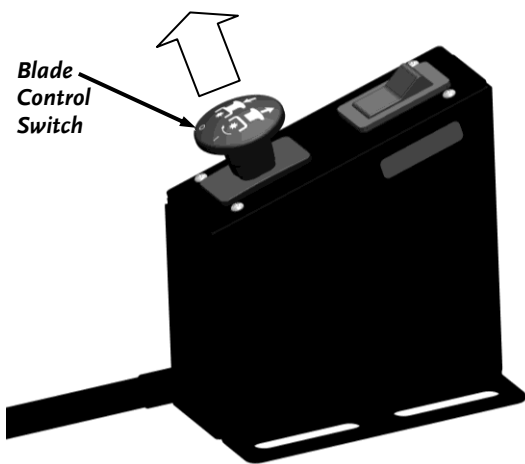

Figure 24
1. Engage the Blades by pulling up on the Blade Control Switch (Figure 24).